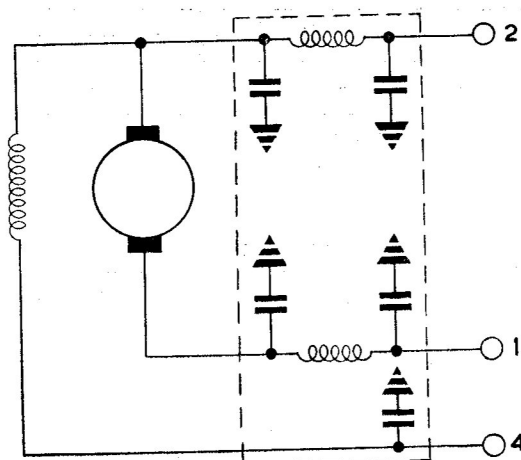

Fig. 2. Circuit diagram
6. An assembly of 5 capacitors and 2 inductance coils is situated within the commutator end cover, and connected to the associated terminals as shown in fig. 2.